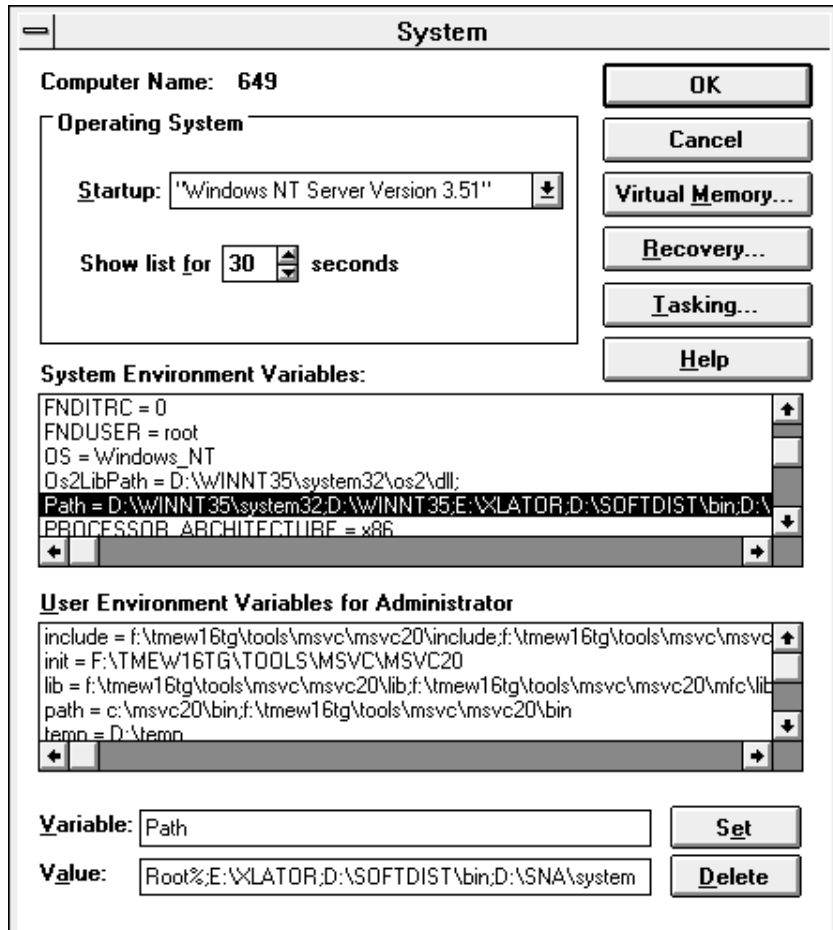

Figure 155. Editing the system environment variables
- 3 Using the system editor, edit the system environment variables, adding XLATOR to the Value field, as shown in Figure 155 on page 231, and save the changes.